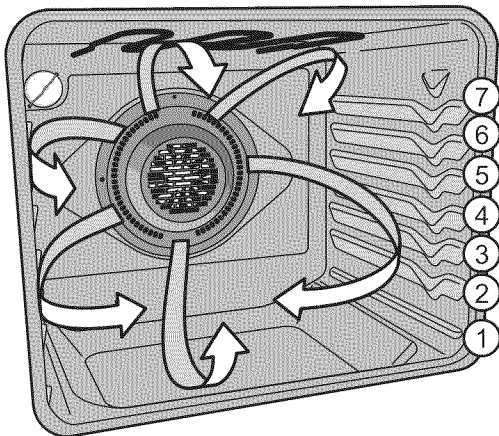

Figure 28: Air movement using convection
- When using two oven racks, place in positions 2 and 5 (See Figure 28).